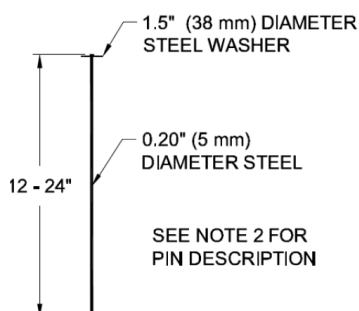

Figure 4: Securing Pin
- Secure **PROPEX** Armormax with pins and secondary anchors in the COS trench. Pins should be made of steel with a 0.20 in (5 mm) minimum diameter, having a 1.5 in (38 mm) diameter washer at the head, and a length between 12 in and 24 in (300-600 mm) with sufficient ground penetration to resist pullout (Figure 4). Longer pins may be required for looser soils. Heavier metal stakes may be required in rocky soils. Suggested placement of pins and Secondary anchors for the COS trench is along the bottom of the trench with pins on 12 in (300 mm) centers in between Secondary anchors on 4 ft (1.2 m) centers. Secondary anchors should also be installed on panel edge overlaps in the COS trench.